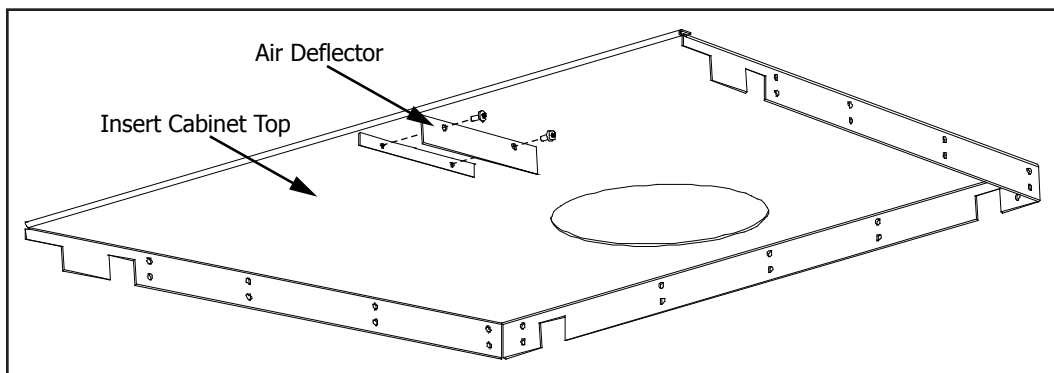

Figure 21: Installing Air Deflector onto Cabinet Top.
3. Remove the Air Deflector (shown in Figure 21) by removing the two (2) T-20 screws.